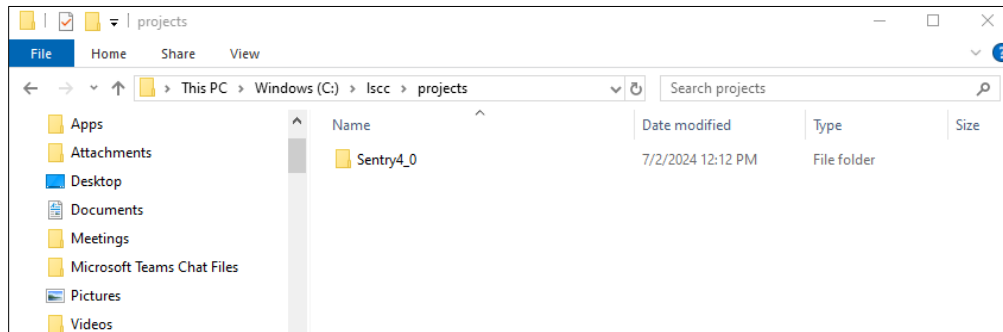

Figure 4.1. Local Project Directory for Creating SoC and C Project
1. Create a project directory for the SoC and C projects locally on your computer, as shown in Figure 4.1.